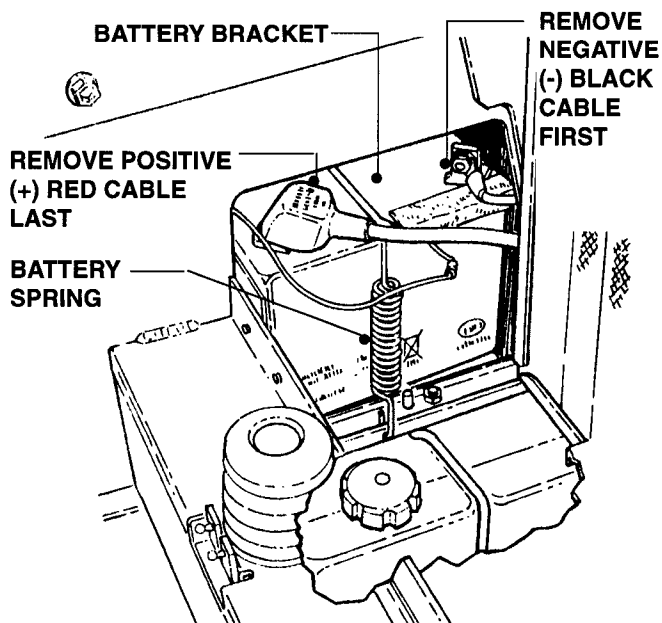

FIGURE 3.6
3. Observe and note Cable positions on Battery. See Figure 3.6.
3. Reinstall Battery Bracket, Spring and Terminal Cover. Refer to Figure 3.6.